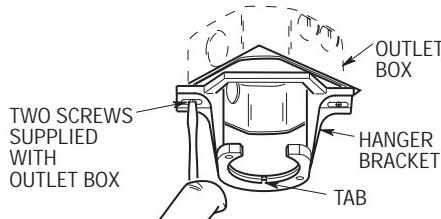
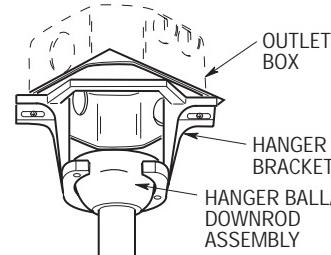

Figure 11
Figure 12
2. Carefully lift the fan and seat the hanger ball/downrod assembly on the hanger bracket that was just attached to the outlet box (Figure 12). Be sure the groove in the ball is lined up with the tab on the hanger bracket (Figure 11).
1. Securely attach the hanger bracket to the outlet box using the two screws supplied with the outlet box (Figure 11).